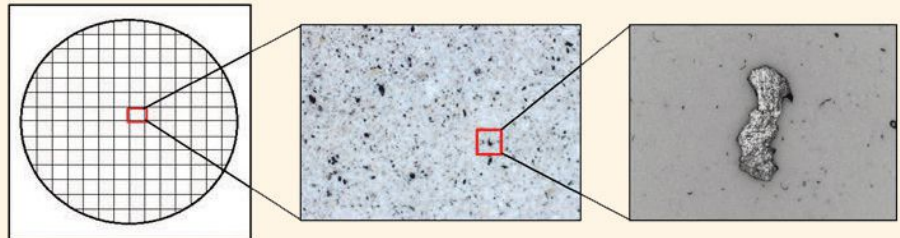

Figure 3. Sample report: Automatic microscopy report. (Figure courtesy of Engineered Lubricants Co.)
5. **Automated optical.** This uses a computer-controlled microscope that can observe particulate captured on a filter like the gravimetric media and discriminate particulate types in order to focus on certain particulate such as wear debris only, not external contaminants, etc. Data is provided with much statistical support, classification of particulate in ISO codes and dimension of the 10 largest particles (see Figure 3).